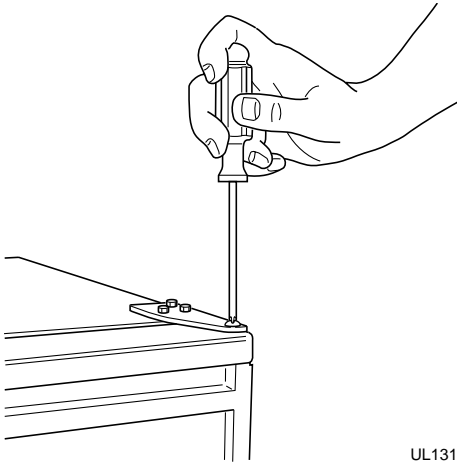

Figure 25
1. Remove top hinge screw pin (large Phillips head, see Figure 25). Hold door to keep it from falling.
- Place door on bottom hinge pin and install upper hinge screw (see Figure 25).